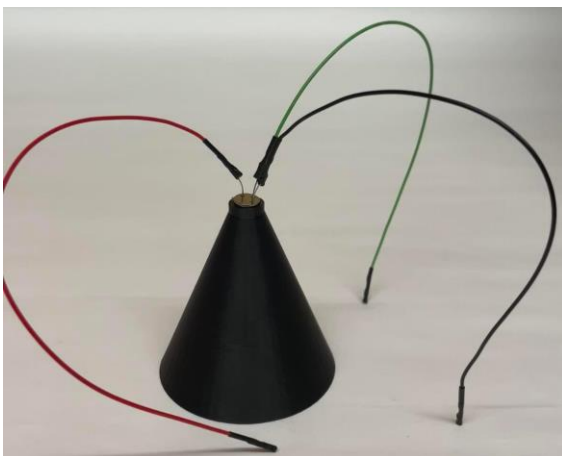

Fig. 17. The wires here are color-coded, where red is connected to drain, green to source, and black to ground.
3. Insert the PIR sensor into the cone with the protuberance oriented vertically with the divider in the cone. Apply a layer of super glue over the PIR sensor to attach it to the cone. Connect jumper wires to the sensor and crimp the headers to tighten the connections. See Fig. 17.